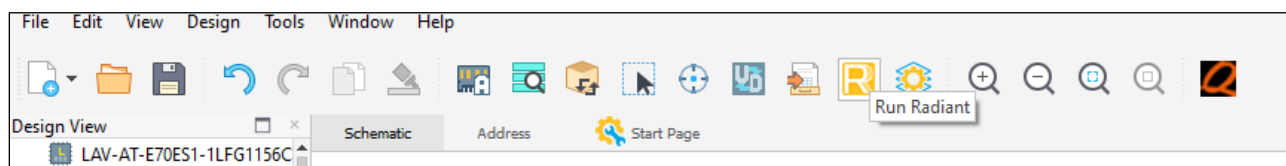

Figure 8.46. Run Radiant Icon
1. Click the Radiant icon from Propel Builder to launch the Radiant software as shown in Figure 8.46.